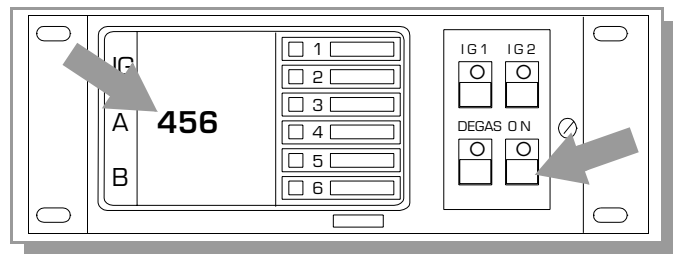

Figure 4-18 Control Unit Front Panel Display Showing Memory Module Identification Numbers Displayed.
6. The last 3 digits of the Memory Module identification numbers will be displayed on lines A and/or B of the display depending on which gauge has been calibrated. See Figure 4-18. The numbers will appear for a few seconds and thereafter for a few seconds each time the Stabil-Ion System power is turned on. If the memory contains standard factory supplied data, the serial number of that data, when displayed, will begin with 0.